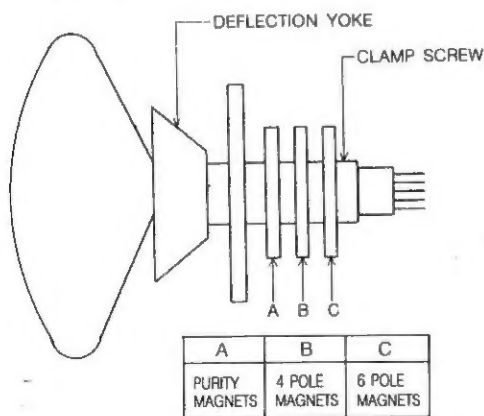

Fig. 8 Picture Tube Neck Component Location
1. Tighten the magnet screw. Refer to the adjusted CRT for the position. (Refer to Fig. 8)